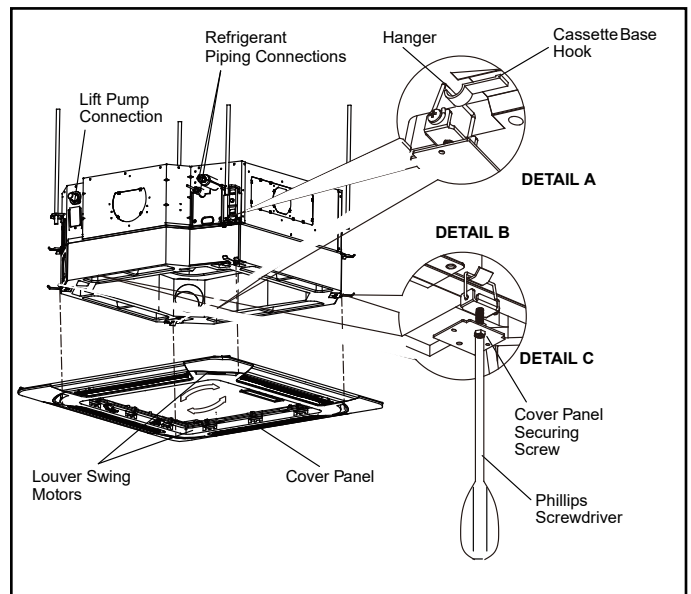

Figure 6. Install Cover Panel
7. Tighten the provided screws in the bracket in the cover panel immediately below each panel hanger. See detail C in Figure 6. Adjust the cover panel by turning slightly clockwise, if necessary, to make sure that the panel is properly aligned with the high efficiency filter kit.